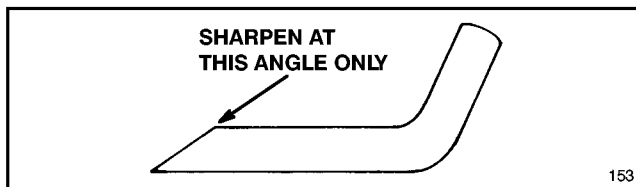

Figure 27
9. **SHARPENING BLADE**—Using a file, sharpen top side of blade and maintain original cutting angle (Fig. 27). The blade will remain balanced if same amount of material is removed from both cutting edges.